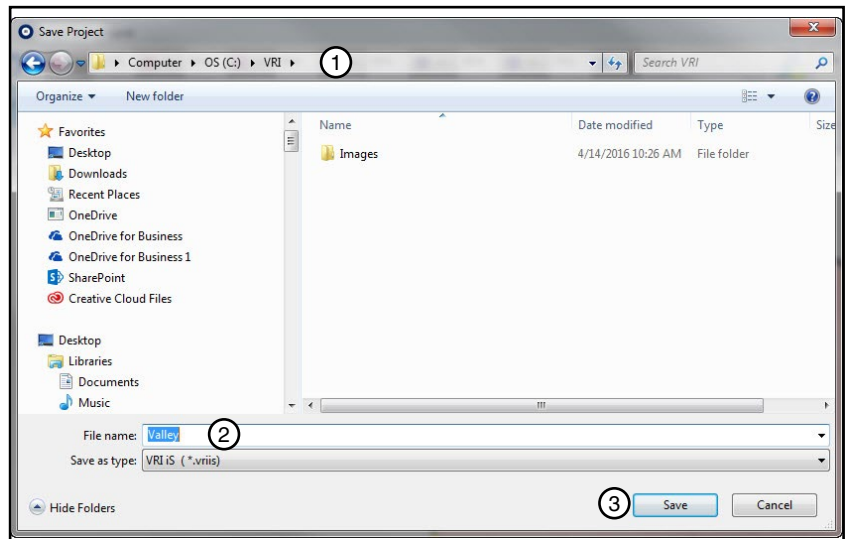

Figure 29-2 1. Folder Name
2. Locate the folder in which you want to save the new project; enter the new project name in the **File name** field, and click **Save**. See Figure 29-2.